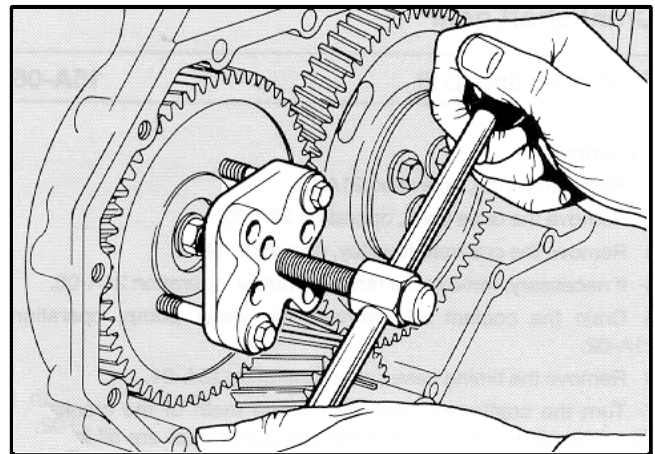

FIGURE 63. REMOVE THE GEAR FOR THE FUEL INJECTION PUMP
4. Gear for the fuel injection pump. Remove the nut and spring washer from the gear for the fuel injection pump. Use a puller and adaptor to remove the gear for the fuel injection pump. The gear has the letter M on the gear to indicate that the threads for the screws of the gear puller are metric. Make sure that the woodruff key in the shaft for the fuel injection pump is not lost. Inspect the gear for wear and damage. See FIGURE 63.